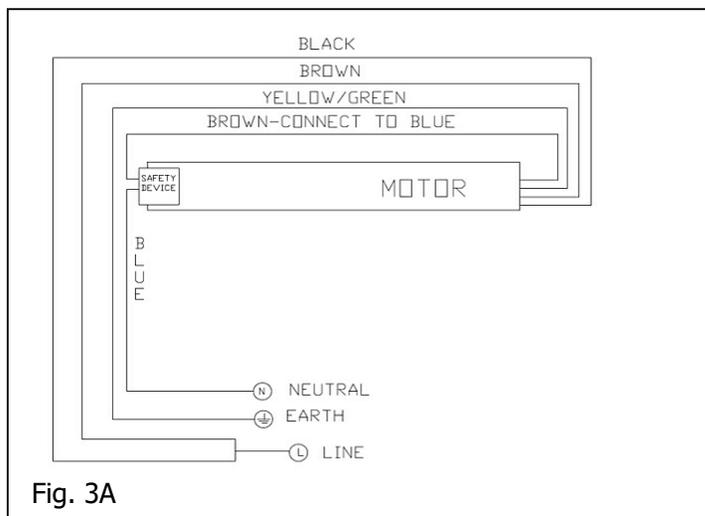

Fig. 3A
- Once you have mounted the lift on the ceiling, connect it to power supply following the scheme shown on Fig. 3A; the lift is supplied with a safety mechanism (Fig. 3B) with a double security system: first - this is a mechanic safety system that prevents the steel cable to unroll when the speed has reached 50 rpm, second – this is an electrical security system that forbids the electrical connection of the motor if the force driven on the steel cable, caused by the falling down, is more than 503 Nm.